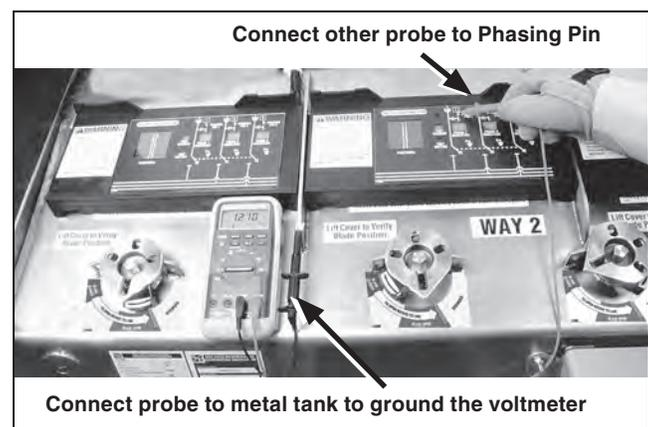

Figure 49. The test probes are connected to metal tank to ground the voltmeter and to a Phasing pin.
- Connect one of the test probes of the voltmeter to the metal tank of the switchgear to ground the voltmeter. See Figure 49.